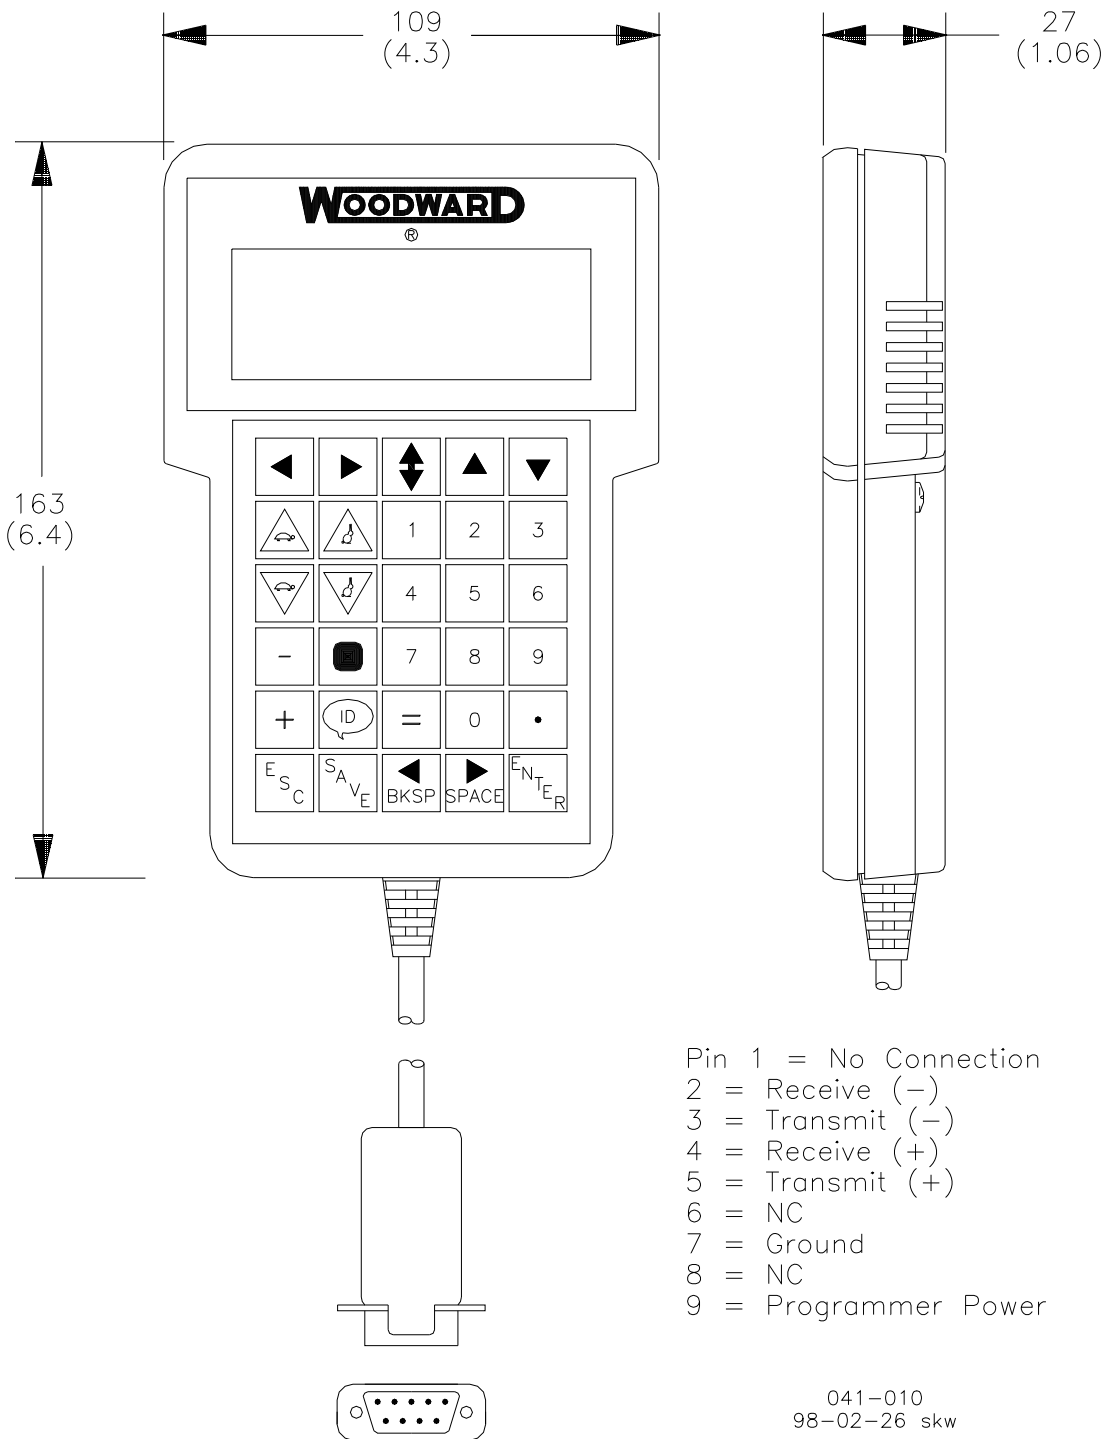

Figure 1-2. Hand Held Programmer
- Hand Held Programmer (Figure 1-2), part number 9907-205, can be used for adjusting the 723PLUS control. It plugs into serial port J1 of the control. This part is EU Directive compliant.